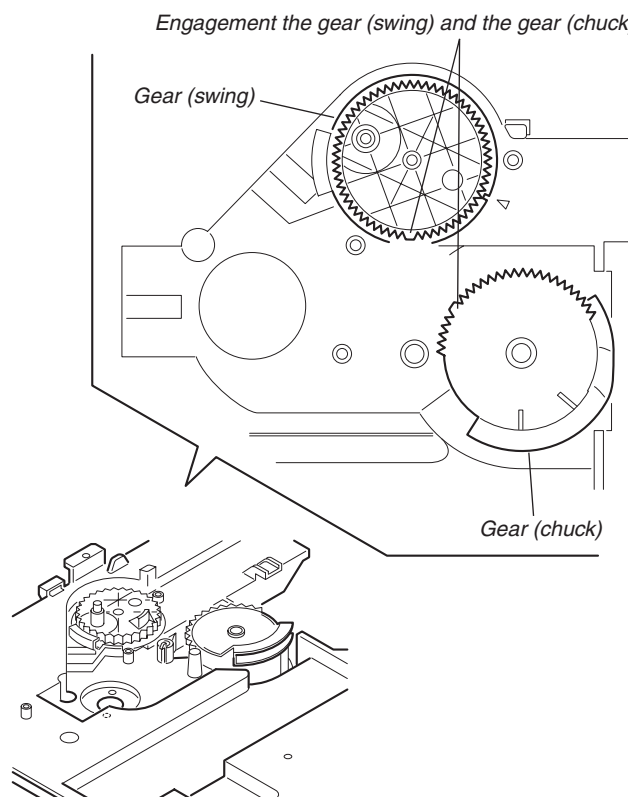

Fig. 7.
- 5) Mount the while aligning the engagement of the gear (swing) and the gear (chuck). (See Fig. 7)